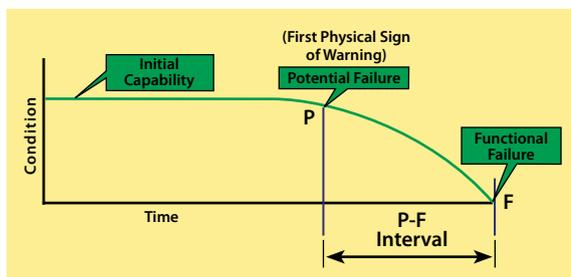

Figure 3 - P-F Curve. Many times for Bearings Functional Failure is equal to Total Failure.
stage so that we can properly procure replacement bearings, plan the job, and schedule the replacement; we must utilize proactive tools. In simplest form, this can be an inspection of the equipment by operations personnel listening to the equipment, feeling the temperature, smelling abnormalities, and seeing items like an oil leak. For more advanced prediction, utilize technologies such as vibration analysis, infrared thermography, and ultrasound. The goal is to detect early signs of random failure by monitoring the health indicators to determine when the bearing will fail using the P-F interval. The P-F interval is the time between the detection of a potential failure (P) and when the bearing has functionally failed (F), as demonstrated in Figure 3.
With bearings, a functional failure is typically found to be a total functional failure which means the bearing has been degraded to the point it no longer rotates or performs the function required of it. It has broken and maintenance is then called because you have a breakdown. This breakdown is what you do not want to see. Using the P-F interval you want to identify the first sign of failure. This is “P” on the graph in Fig 3, and this interval is typically time based. At first you may or may not know this interval and, thus, may have to take the best estimate from maintenance personnel, operators, or reliability engineers.